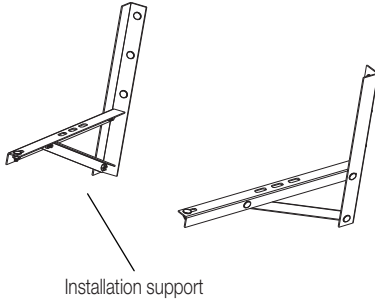

Fig. 10
- If installation brackets for installing outdoor unit are needed, user could buy the brackets from our company or agents (Fig.10).